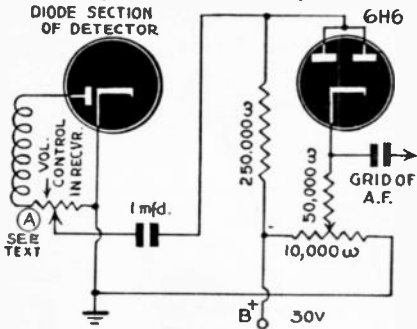

Fig. 316
A. The noise silencer shown in Fig. 316 may be used on any set using diode detection. The first tube is V1, the diode section of the detector tube, which may be any of the detector or detector-amplifier tubes. The second tube shown, V2, is a 6H6. The 30 volts used by the silencer tube may be obtained by connecting a 25,000-ohm resistor from the 30-volt point to the screen supply, usually about 100 volts.